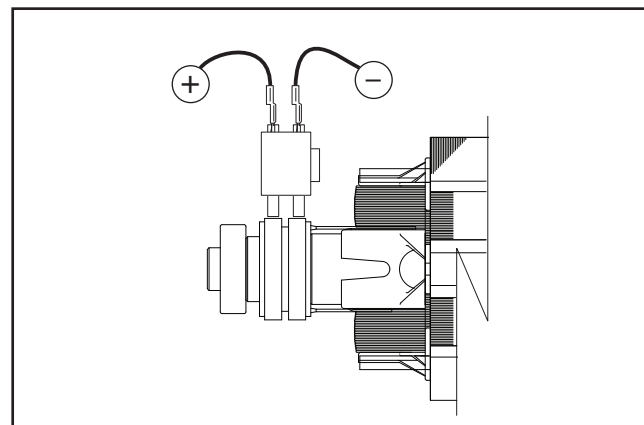

Figure 6. Brushes and Slip Rings
1. See Figure 6. Carefully inspect brush wires. Make sure they are properly and securely connected.